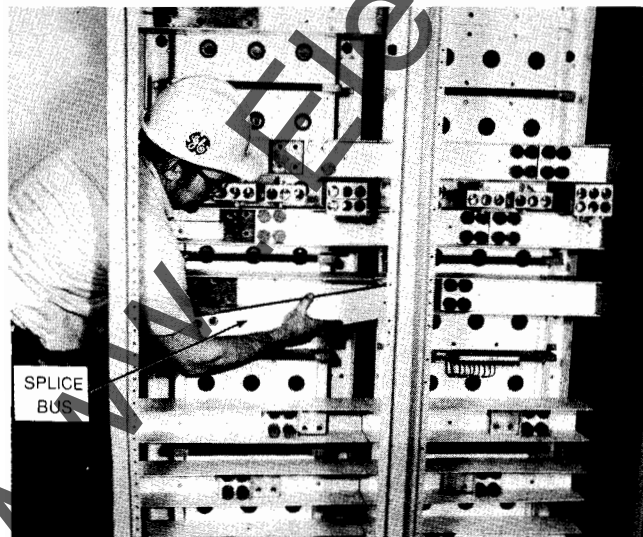

FIGURE 16.
1. Install splice bus (One or two bars depending on ampere rating) (Fig. 16).